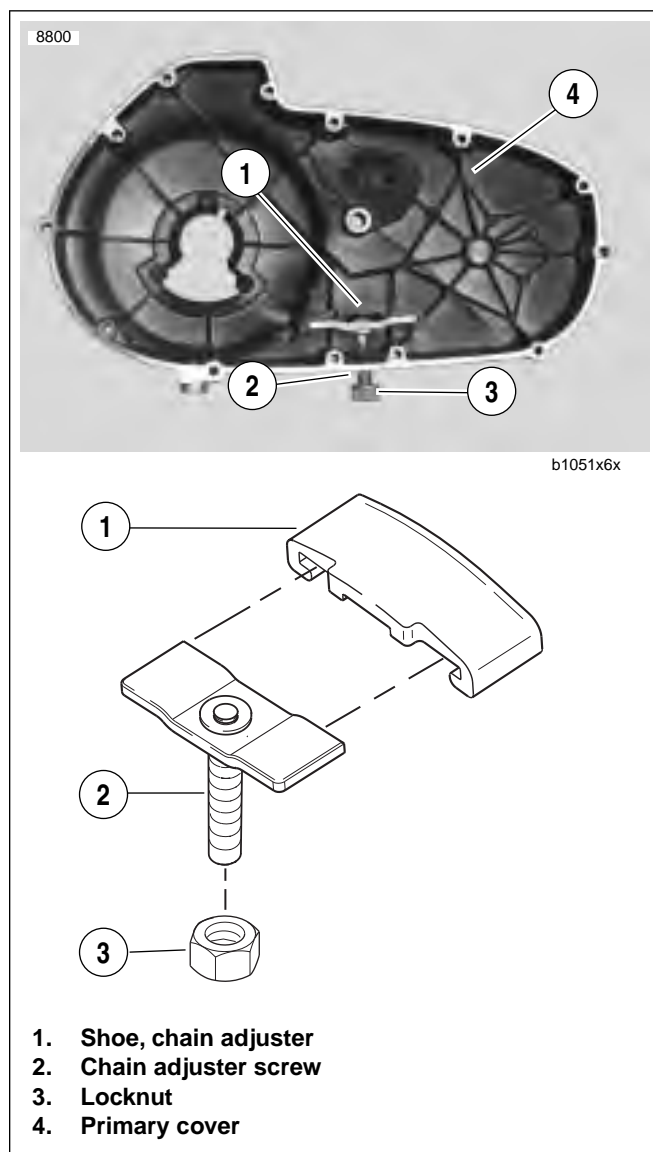

Figure 6-4. Primary Chain Adjuster
1. See Figure 6-4. Remove locknut (3) from adjuster screw (2). Turn adjuster screw out of threaded boss in primary cover (4).
3. See Figure 6-4. Inspect primary chain adjuster shoe (1). If badly worn or damaged, it must be replaced.
5. Position adjuster inside primary cover (4) with closed side of shoe against cover. Thread adjuster screw (2) all the way into tapped boss at bottom of primary cover.
6. At outside of cover, thread locknut (3) onto adjuster screw with nylon sealing surface toward cover. A 1/4-inch allen wrench may be inserted into end of adjuster screw to hold it while threading locknut.